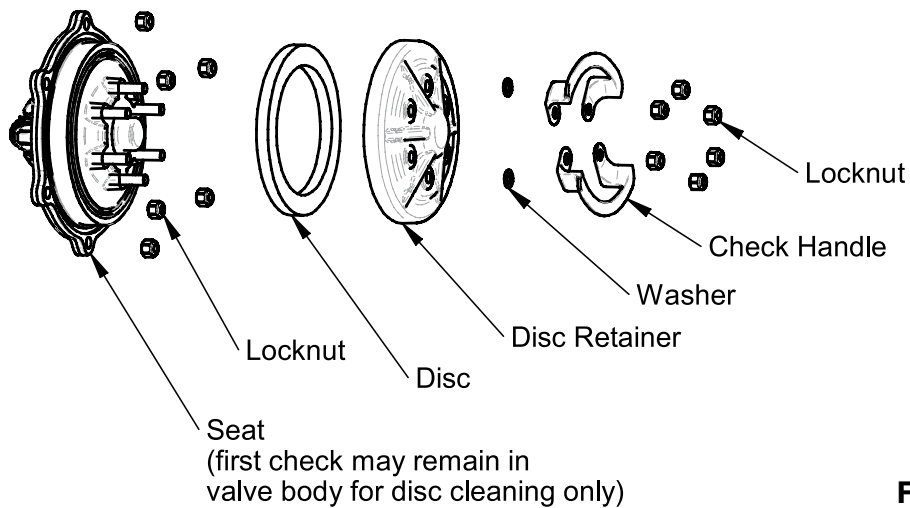

Figure 7
If only cleaning of the first check is necessary, simply remove the six (6) nuts for 8" valves / eight (8) nuts for 10" & 12" valves on the black plastic disc retainer (See Figure 7). Remove the check handles and washers and lift the disc retainer and disc out of the body. Rinse the disc with clean water or replace if necessary. The disc may be flipped over for a temporary repair, but should be replaced if damaged. Replace the disc, disc retainer, washer, handle, and nuts. **Do not over tighten locknuts.**